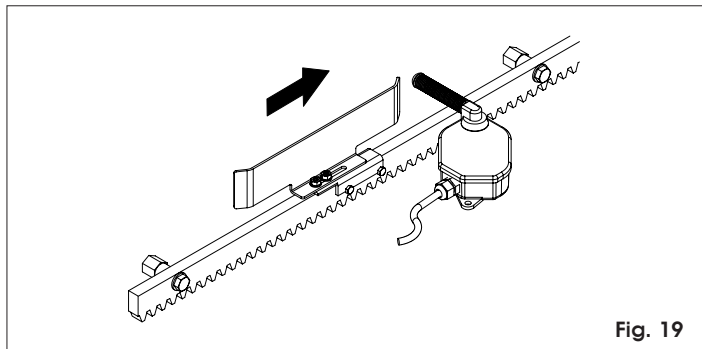

Fig. 19
- 5) Allow the plate to slide over the rack in opening direction (Fig.19). As soon as the opening limit stop LED on the control board goes off, take the plate forward by about 20÷30 cm and secure it provisionally on the rack, using the supplied screws.